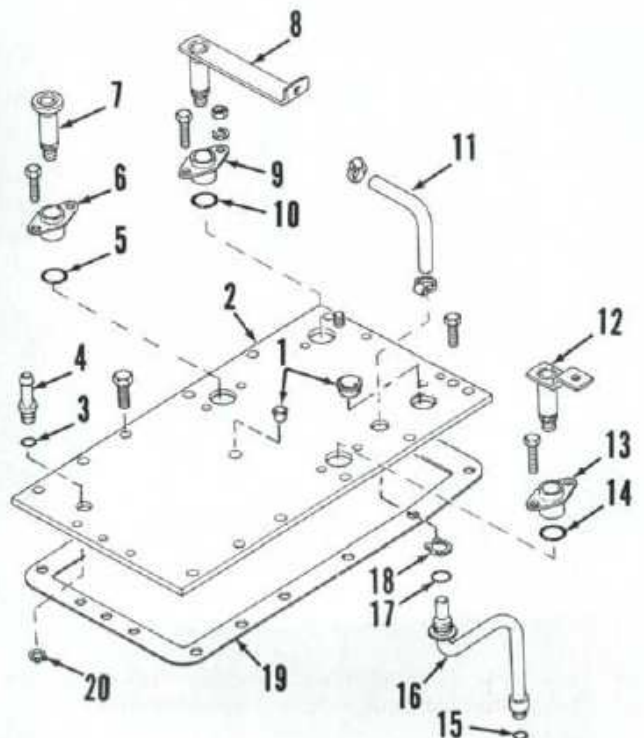

Fig. 111—View of typical speed gearbox cover and relative components.
To disassemble the removed synchromesh speed transmission, first remove the speed gearbox cover (2—Fig. 111) as follows: Disconnect brake return hose from adaptor (4) and lube hose (11) from lube tube (16). Remove snap ring (18) from lube tube (16). Make
certain shift levers (8 and 12) are in neutral position, then unbolt and remove cover (2). Remove lube tube (16) from gearbox. Disassembly of the cover and shift levers is obvious after examination of the unit and reference to Figs. 111 and 112.